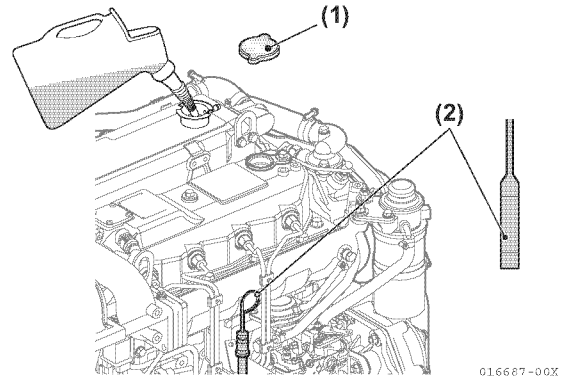
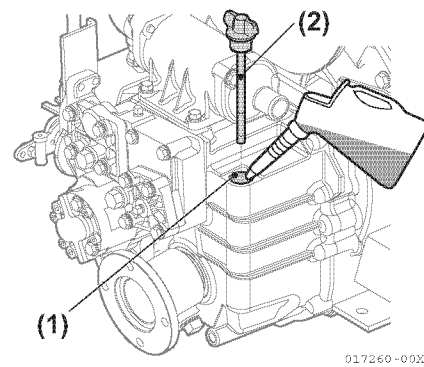

Figure 5-203
Figure 5-204
75. Fill the engine with lubricating oil from the supply port on top of the gear case or the rocker arm cover and fill the marine gearbox from the supply port on top of the reduction gear case. (Figure 5-203) and (Figure 5-204).